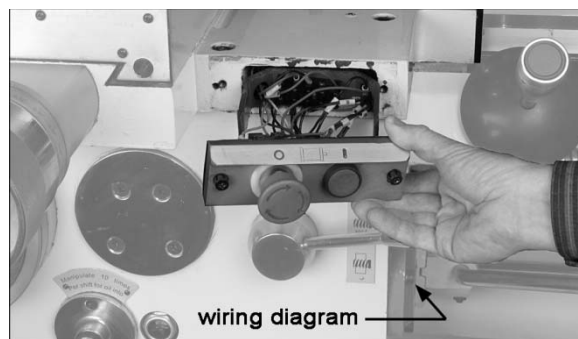

Figure 19 – Rapid feed motor wire access
2. **Rapid Feed Motor:** Remove the control panel on the saddle (Figure 19) to rewire the rapid feed motor. The diagram is located on the right side of the apron near the directional lever. **It is not necessary to pull out the rapid feed motor for voltage conversion.**